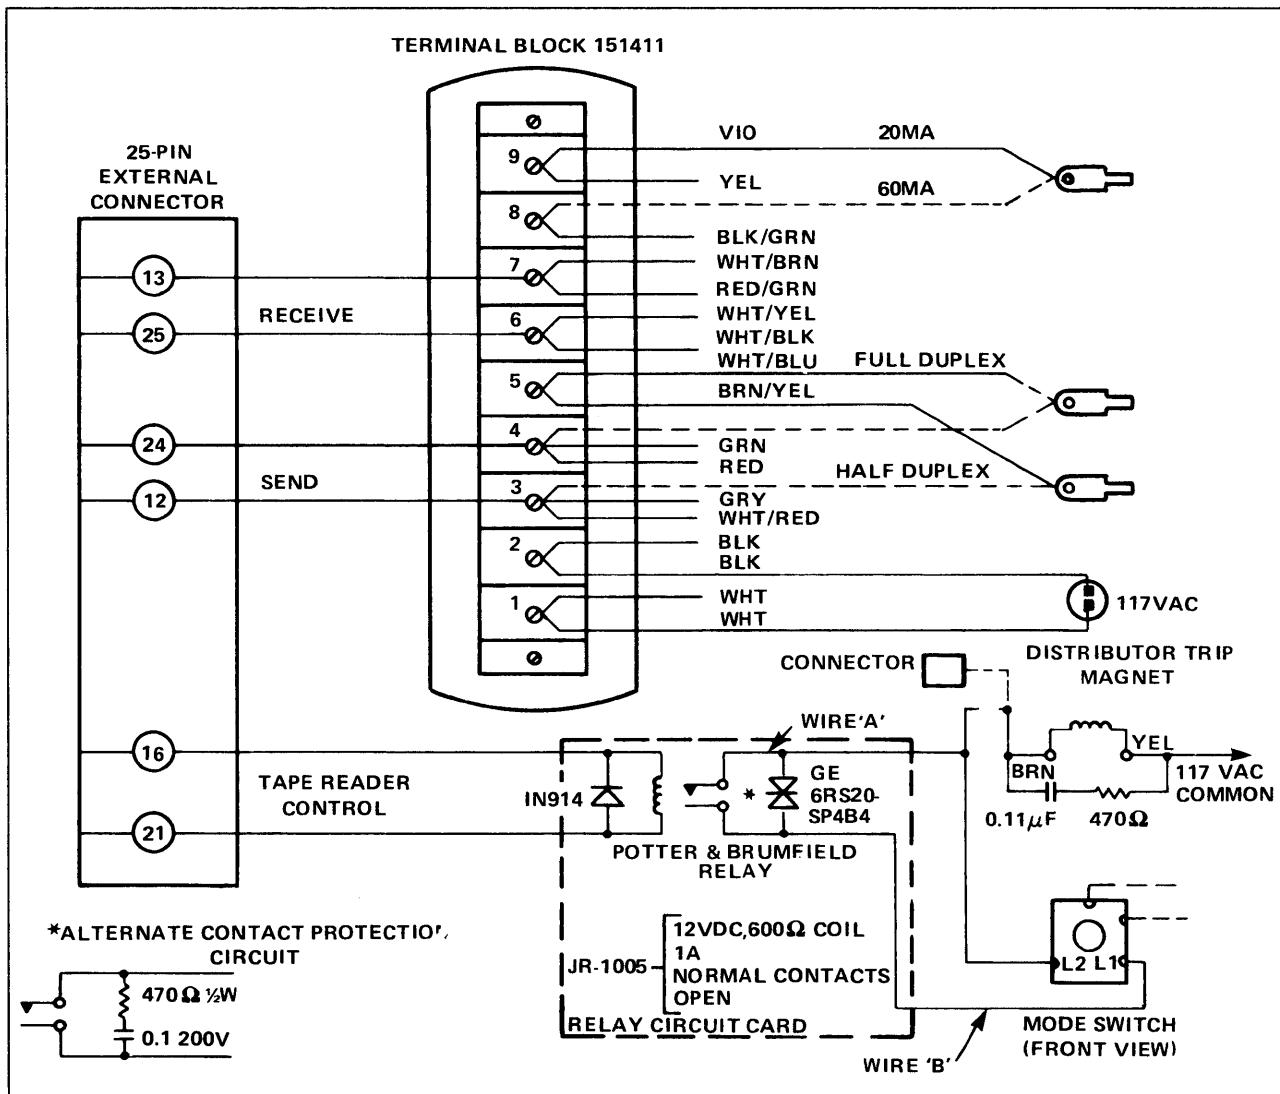
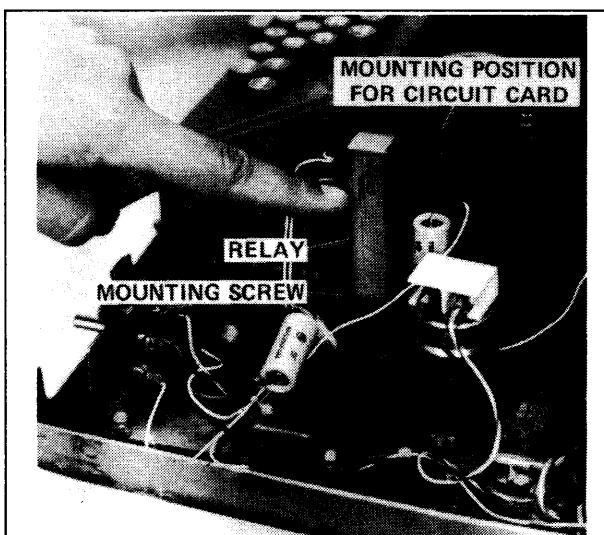
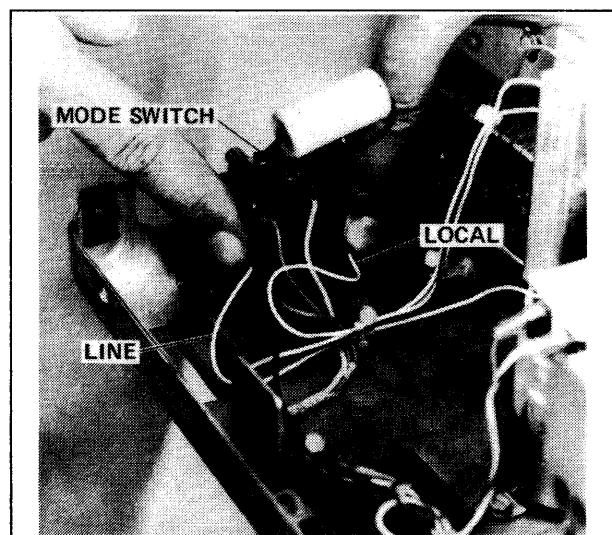

Figure D-4. Teletypewriter Modifications
Figure D-5. Relay Circuit
Figure D-6. Mode Switch
A circuit diagram of the relay circuit card is included in Figure D-4; this diagram also includes the part numbers of the relay, diode, and thyrauctor. (Note that a 470-ohm resistor and a $0.1\mu F$ capacitor may be substituted for the thyrauctor.) After the relay circuit card has been assembled, mount it in position as shown in Figure D-5. Secure the card to the base plate using two self-tapping screws. Connect the relay circuit to the distributor trip magnet and mode switch as follows:
1. Refer to Figure D-4 and connect a wire (Wire A) from relay circuit card to terminal L2 on mode switch (See Figure D-6).
3. Refer to Figure D-4 and connect a wire (Wire B) from relay circuit board to terminal L1 on mode switch.
Connect a two-wire receive loop, a two-wire send loop, and a two-wire tape reader control loop to the external device as shown in Figure D-4. The external connector pin numbers shown in Figure D-4 are for serial channel 1 on the Intellec Series II.